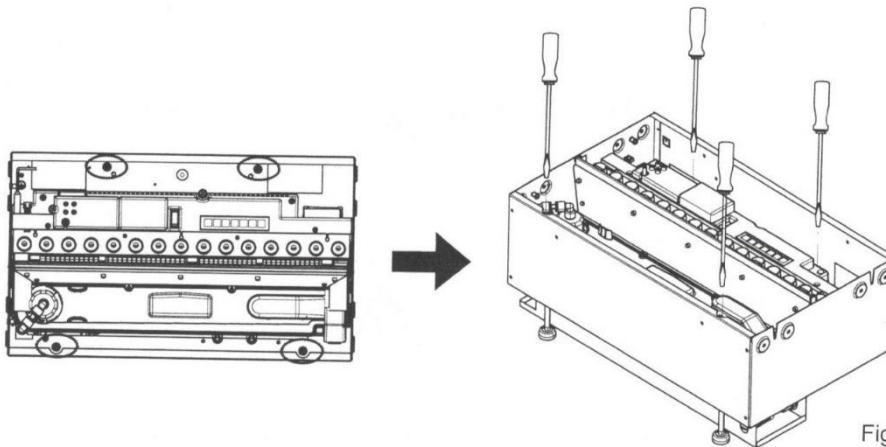

Fig. 8
3. Ensure the second product is at the correct height to match the first product and ensure it is adequately level. This can be done by adjusting the adjustable feet with a flat head screwdriver (Fig. 8).